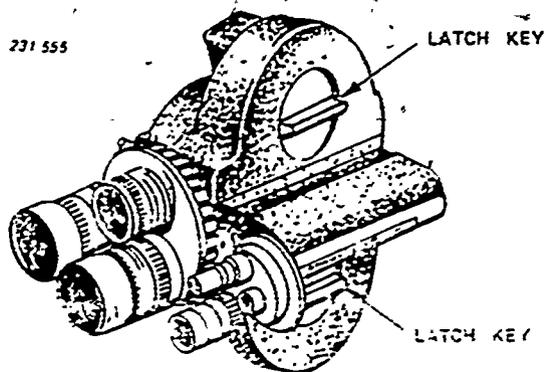

Figure 3-59. B-1A camera (left view).
1. Remove the cover from the camera as shown in figure 3-59 and open the film gate by pushing the gate arm toward the back of the camera as far as it will go. An intermediate stopping point can be felt when the gate is partially open, but the gate arm should be pushed on back until the upper and lower sprockets are drawn away from their guide shoes.